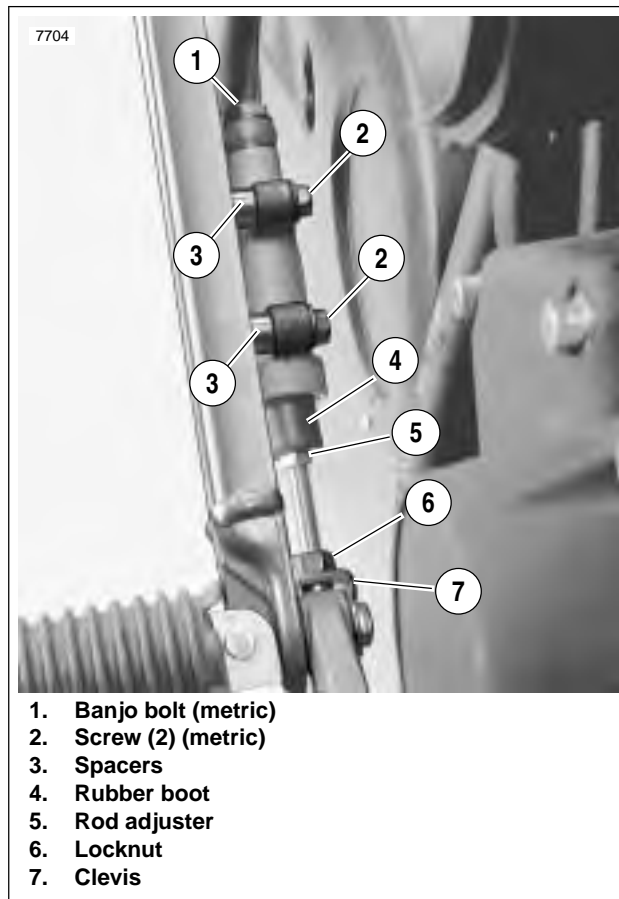

Figure 2-47. Master Cylinder Mounting
4. See Figure 2-47. Remove two screws (2) and spacers (3) to detach master cylinder from footrest support.